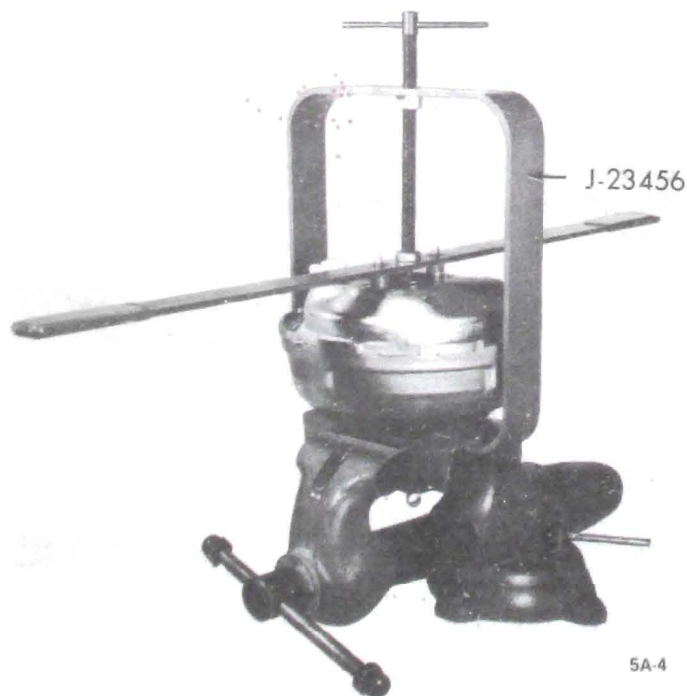

Figure 5A-4 Unlocking Front and Rear Housings
3. Mount Unlock Tool J-23456 in a vise. Position housing assembly on tool so that four studs fit in holes provided. See Figure 5A-4.